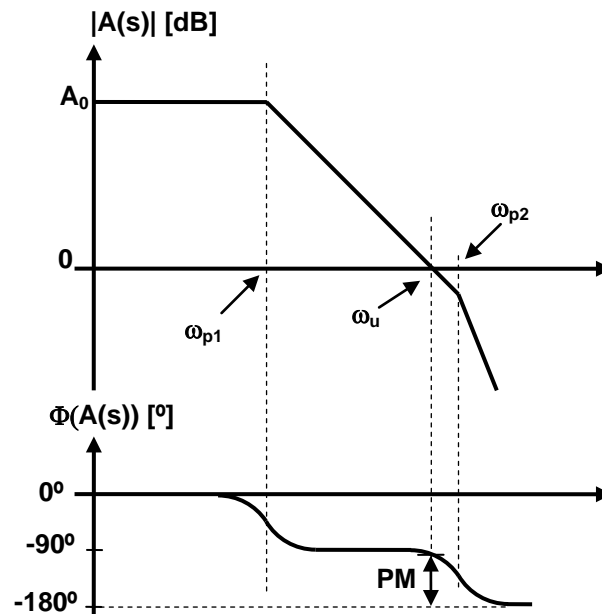

Figure 6 - Bode-plot of a stable two-pole system.
Figure 6 shows a two-pole system with a positive phase margin, which is a requirement for a stable system. The position of the unity-gain frequency in relation to the second pole (ω_{p2}) has a large impact on the stability and behavior of the system. If ω_u is larger than ω_{p2} the phase-margin will be less than 45° , which will cause ringing. In order to have a well behaved system the phase-margin is usually required to be larger than 60° , which further requires that ω_u is less than ω_{p2} .
For the type of system shown in Figure 6 the second pole (ω_{p2}) will not impact the amplitude of the transfer-function $A(s)$ for frequencies less than ω_u . The unity-gain frequency can therefore be approximated using a one-pole system according to (20).